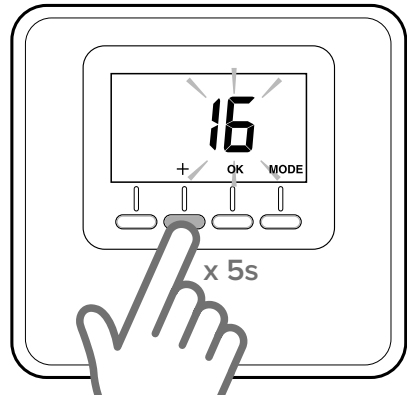

Fig. 14
- Hold the “+” key on the room sensor down for 5 seconds (Fig. 14).